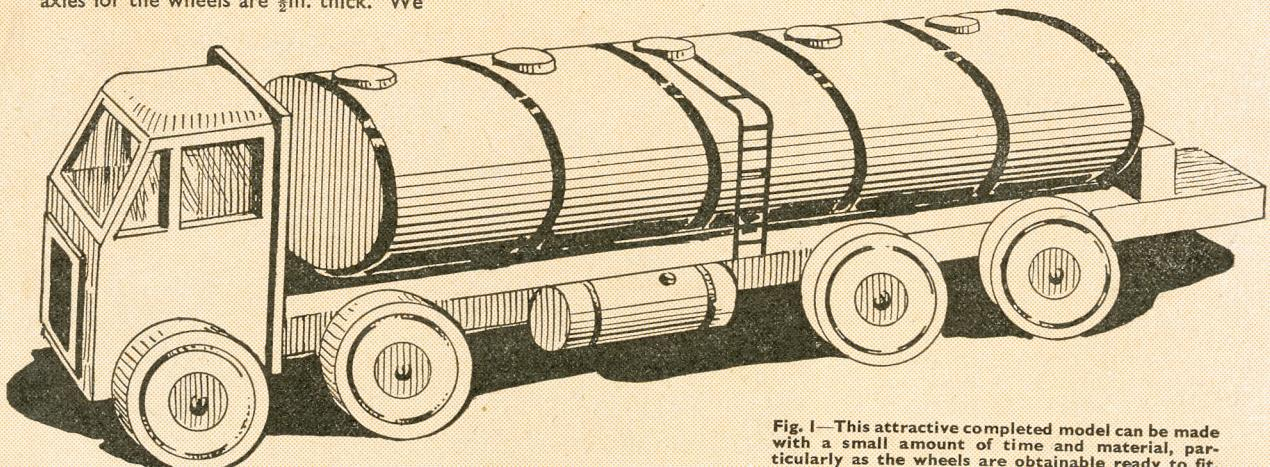

Fig. 1—This attractive completed model can be made with a small amount of time and material, particularly as the wheels are obtainable ready to fit.
The roof of the cabin is next made, and a piece of ½ in. wood measuring 3 in. by 1½ in. is wanted for this. The squared up piece, just as it leaves the saw may be glued in place on the cabin sides and to the back (C). The shaping is afterwards done on three edges as seen in Figs 1 and 2. If preferred, however, the shaping could be done before the roof is glued on. Add one or two small gluing blocks where possible to add to the strength of the joints; they should be put along inside where not particularly seen.